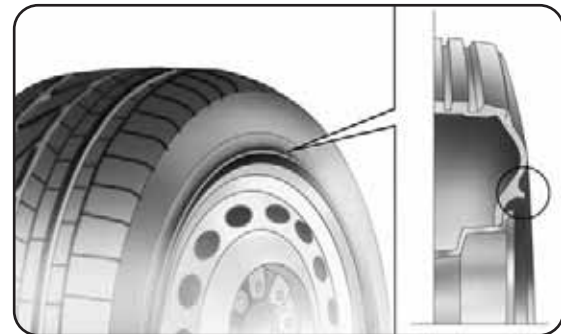

fig. 5
RIM PROTECTOR TYRES fig. 5
*If after-sale tyres with rim protector are used (fig. 5) and the car has integral cups fixed (by springs) to the sheet wheel, **DO NOT** fit wheel cups. The use of unsuitable tyres and wheel cups could cause a sudden pressure loss of the tyre.*